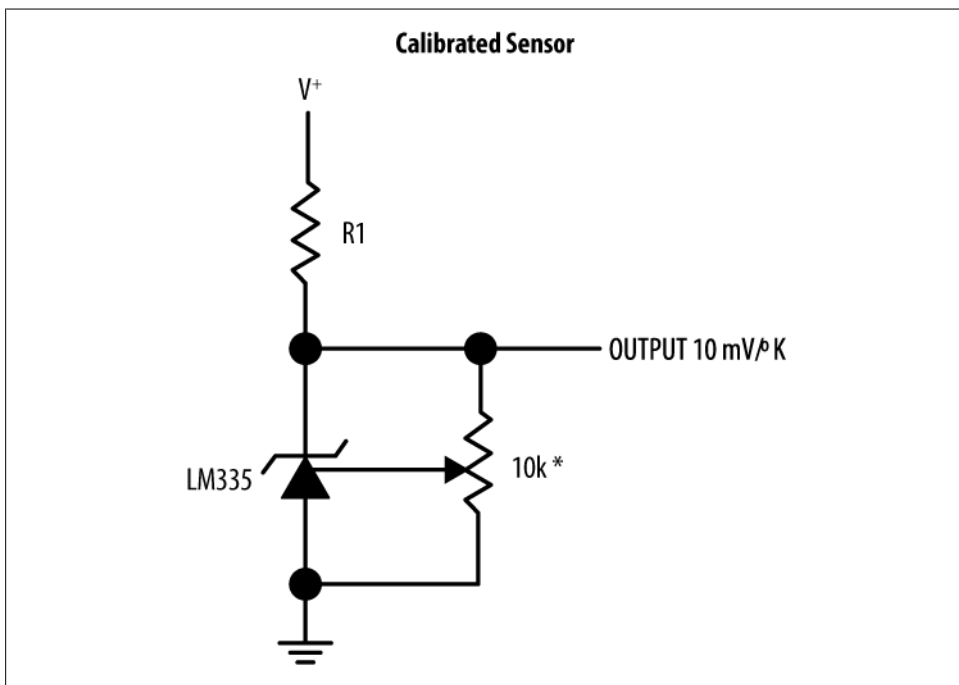

Figure 5-13. LM335 calibration schematic showing a potentiometer attached to power, ground, and the adjustment pin
7. If your temperature readings are somewhat off, you can calibrate the sensor by connecting a potentiometer across the LM335 with the output connected to the adjustment pin as in Figure 5-13. Also, check to see if it is next to another component on your circuit board that's generating a bit of heat, like the voltage regulator.